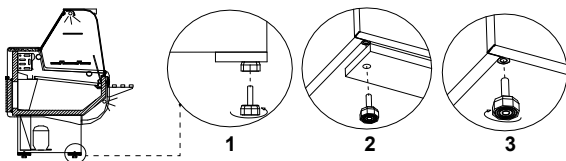

Fig.2 Removing the wooden platform
- Unpack the device and remove the wooden platform from the basis Fig.2 (p.13)